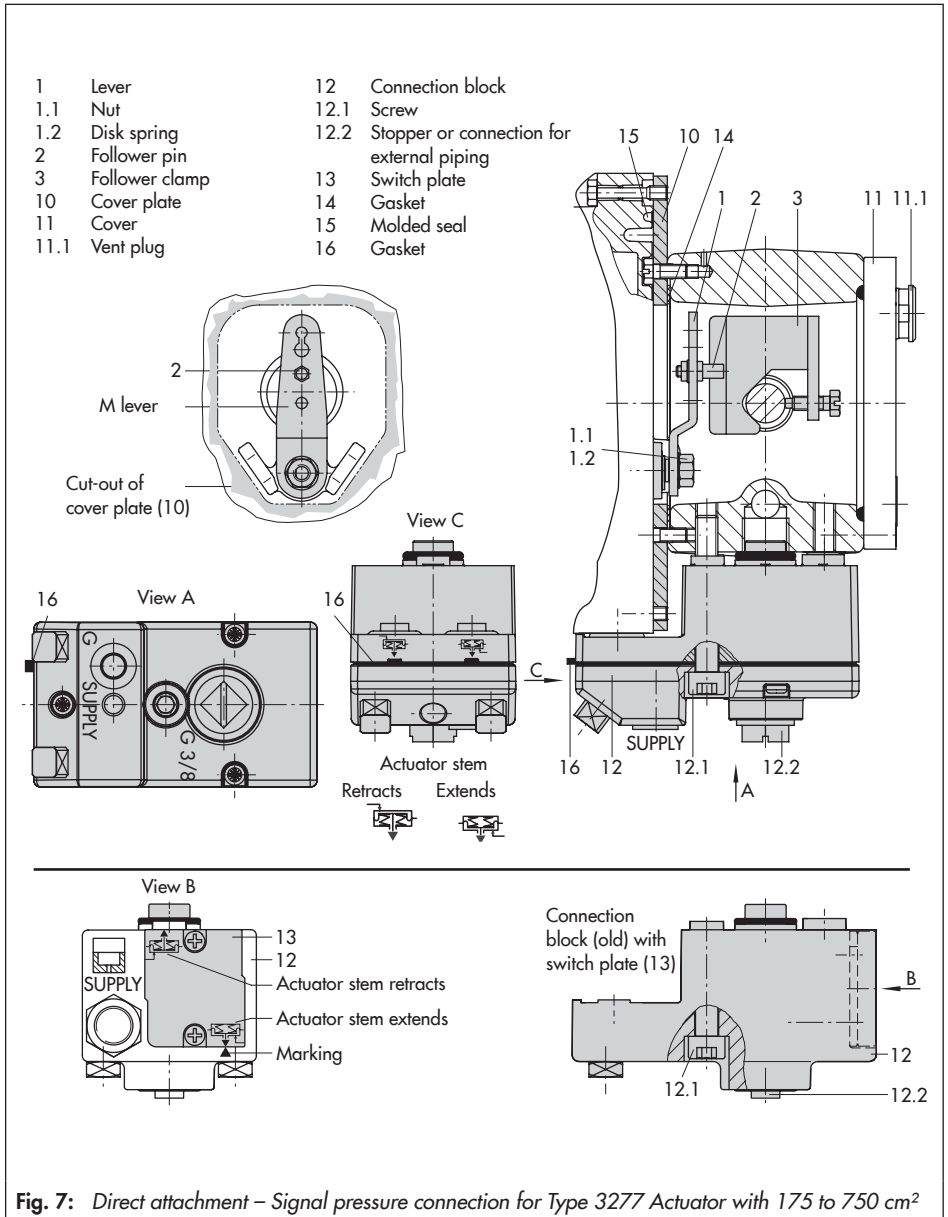

Fig. 7: Direct attachment – Signal pressure connection for Type 3277 Actuator with 175 to 750 cm²
Actuators with 175 to 750 cm² effective areas (see Fig. 7)
1. Place follower clamp (3) on the actuator stem, align it and screw tight so that the mounting screw is located in the groove of the actuator stem.
2. Mount cover plate (10) with narrow side of the cut-out (Fig. 7, on the left) pointing towards the signal pressure connection. Make sure that the gasket (14) points towards the actuator yoke.
3. For actuators with 355, 700 or 750 cm², remove the follower pin (2) on the **M** lever (1) on the back of the positioner from pin position **35**, reposition it in the hole for pin position **50** and screw tight. For actuators 175, 240 and 350 cm² with 15 mm travel, keep the follower pin (2) in pin position **35**.
4. Insert molded seal (15) into the groove of the positioner housing.
5. Place positioner on the cover plate in such a manner that the follower pin (2) rests on the top of the follower clamp (3). Adjust the lever (1) correspondingly and open the positioner cover to hold the positioner shaft in position at the cap or rotary pushbutton. The lever (1) must rest on the follower clamp with spring force. Fasten the positioner on the cover plate (10) using the two fastening screws.
6. Make sure that the tip of the gasket (16) projecting from the side of the connection block is positioned to match the actuator symbol for the actuator's fail-safe action "actuator stem extends" or "actuator stem retracts". If this is not the case, unscrew the three fastening screws and lift off the cover. Turn the gasket (16) by 180° and re-insert it.
The old connection block version (Fig. 7, bottom) requires the switch plate (13) to be turned to align the actuator symbol with the arrow marking.
7. Place the connection block (12) with the associated seals against the positioner and the actuator yoke and fasten using the screw (12.1). For actuators with fail-safe action "actuator stem retracts", additionally remove the stopper (12.2) and mount the external signal pressure pipe.
8. Mount cover (11) on the other side. Make sure that the vent plug is located at the bottom when the control valve is installed to allow any condensed water that collects to drain off.